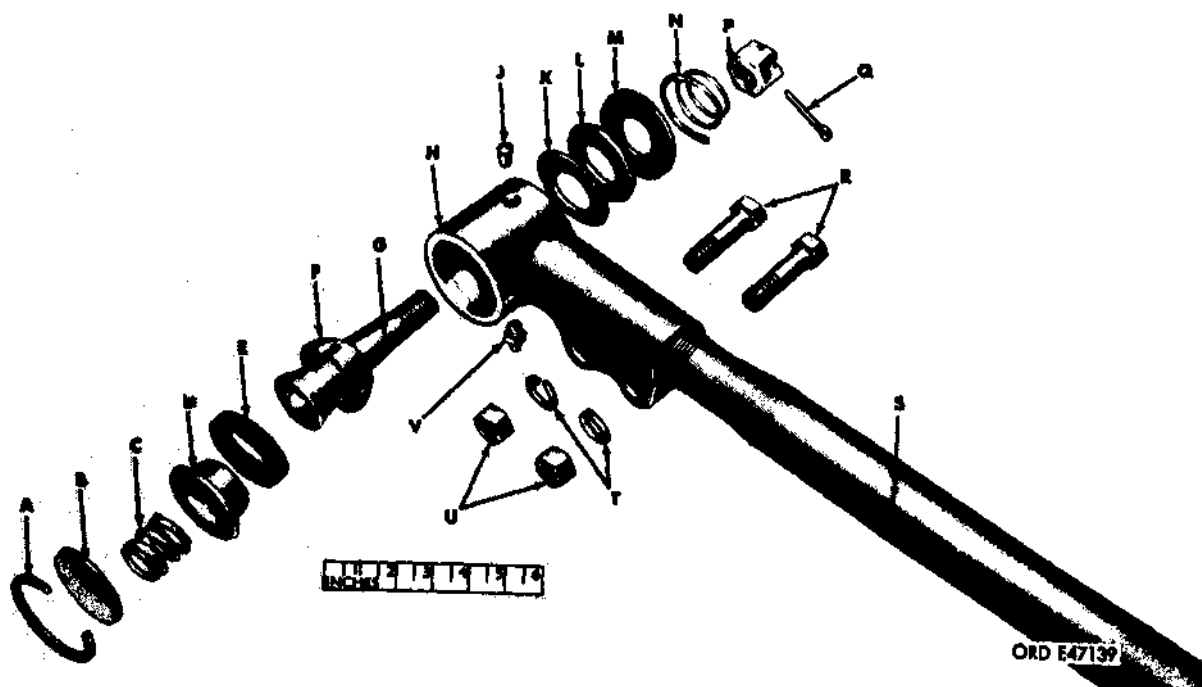

Figure 349. Tie-rod end assembly- exploded view
(1) General. The tie rod assembly need not be disassembled unless inspection reveals that parts must be replaced. The following procedure will apply when disassembling.
(2) Loosen tie rod end capscrews (figure 349). Loosen the two capscrews (R), and nuts (U) holding the tie rod end at each end of tie rod tube (S). Loosen tie rod tube from the tie rod ends by using a chisel to remove tack weld at each tie rod assembly. Do not damage threads.
(3) Remove tie rod end assemblies (figure 349). Remove tie rod end assemblies from tie rod tube (S).
(4) Disassembly of tie rod end assemblies (figure 349). If necessary to disassemble tie rod end assemblies to replace worn or damaged parts, remove end plug snap ring (A) from base of tie rod end. This will permit removal of end plug (B), compression spring (C), spring seat (D), felt washer (E), end stud bearing (F), and end stud (G) from inside of tie rod end.
c. Assembly (figure 349).
(1) Install end stud bearing (F) in tie rod end notch in bearing over end stud bearing pin (J).
(2) Install end stud (G) from bottom of tie rod end.
(3) Place felt washer (E) over spring seat (D) and enter assembly from bottom of tie rod end until spring seat contacts end stud (G). Closed end of seat must be toward end stud.
- (4) Insert compression spring (C) in spring seat (D). Install end plug (B) and secure with end plug snap ring (A).
- (5) Install two cap screws (R), lockwashers (T), and hex-nuts (U) in tie rod end. Tighten fingertight only, as toe-in must be adjusted after axle is installed on truck.
- (6) Repeat operations (1) through (5) above for other tie rod end.
- (7) Install tie rod ends on end of tie rod tube (S). Tube is threaded left-hand thread one end, right-hand thread at other end. Right tie rod mounts on right-hand thread end of tube. Install each tie rod end same number of turns on tube.
- (8) Install washer (K), shield seal (L), stud shield (M), and tapered compression spring (N) over thread end of end stud (G). Spring must be installed with large diameter toward stud shield. Install slotted nut (P) to hold spring and seal assembly on tie rod end stud until tie rod is assembled to front axle.
- (9) Repeat operation (8) above for other tie rod end.